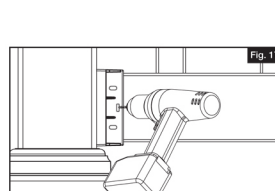

Fig. 17
- For each installed bracket, pre-drill in the center of each elongated hole with a ⅛" drill bit (Fig. 17).